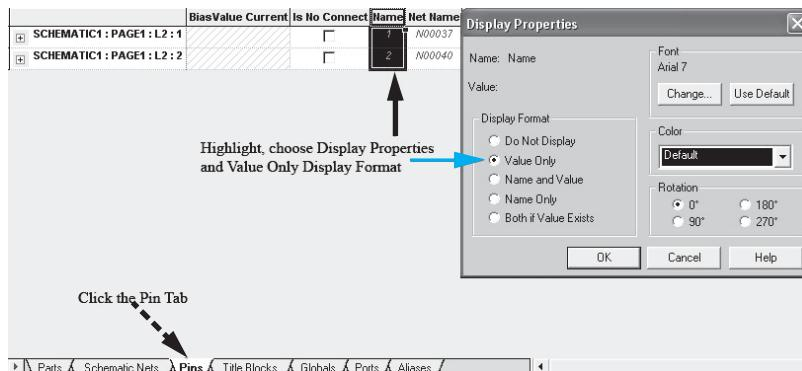

FIGURE 12.38 Steps to display the pin number of the inductor in PSpice.
5. Next, click on the Pin Tab as shown in Figure 12.38 (shown by the dashed arrow), then highlight both Name “1” and “2” (by the solid arrow), and choose the “Display Properties.” Choose “Value Only” as the Display Format, click OK, and close the properties menu.